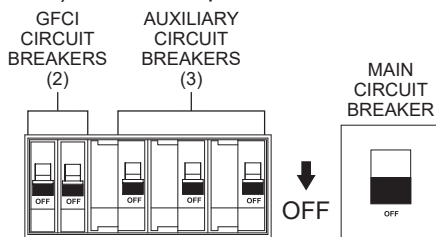

Figure 61. Main, Auxiliary, And GFCI Circuit Breakers (OFF)
2. Place the **main, auxiliary, and GFCI** circuit breakers (Figure 61) in the **OFF** position.
2. Place the **main, auxiliary, and GFCI circuit breakers** in the **OFF** position as shown in Figure 61.